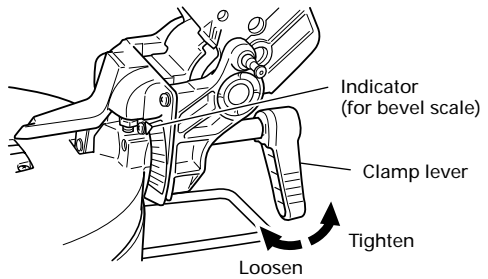

Fig. 17
11. Bevel cutting procedures (Fig. 17)